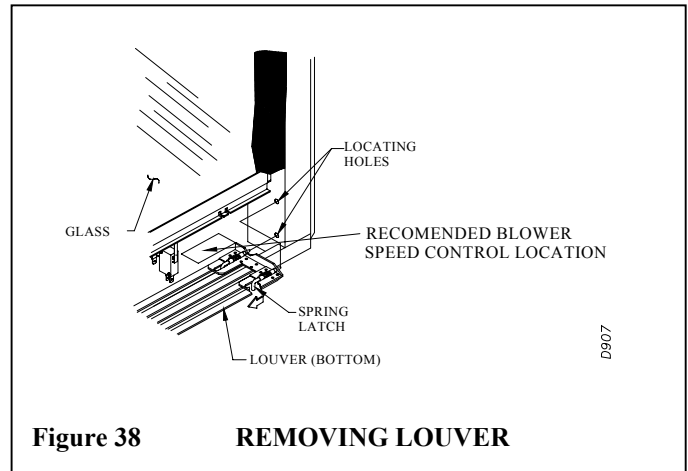

Figure 38 REMOVING LOUVER
1. To remove the lower louvers simultaneously pull both top end spring latches towards the center of the appliance until they are disengaged from the locating holes. Repeat for the bottom spring latches and pull the louvers outward (fig. 38).
1. Remove lower louver access panel from fireplace (see figure 38).
1. To remove louvers follow the instructions on page 16. Refer to figure 38.